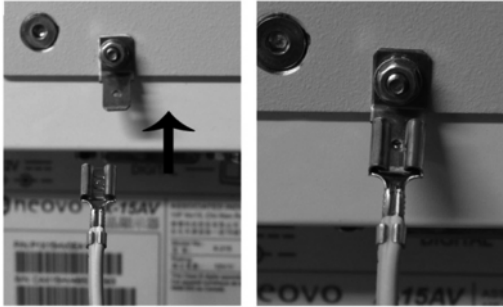
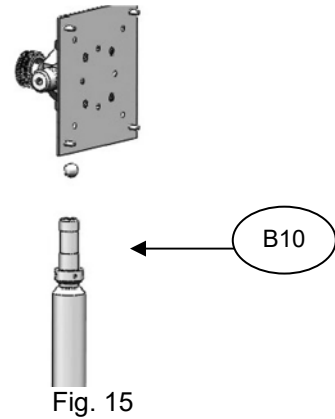

Fig. 15a
Fig. 15
14. Screw the VESA support to the monitor, place the Ø 11 ball **B9**, and place the VESA support on the axis of the monitor support. Then with the corresponding captive screw place the antirotation ring **B10** so the turn is limited to avoid damage to the cables. (Fig.15). Connect Earth connection to Vesa Support (Fig. 15a).